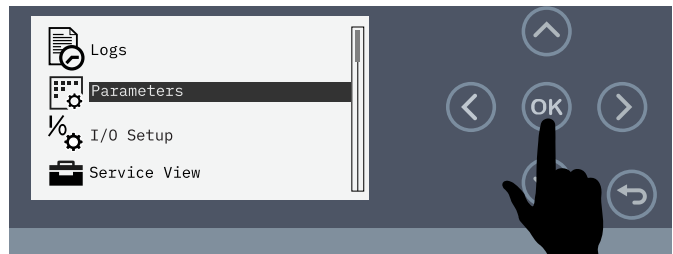

Figure 85. Select Parameters
2. Press the **Down Arrow button** (Figure 85) until **Parameters** is highlighted on the display screen, then press the OK button.